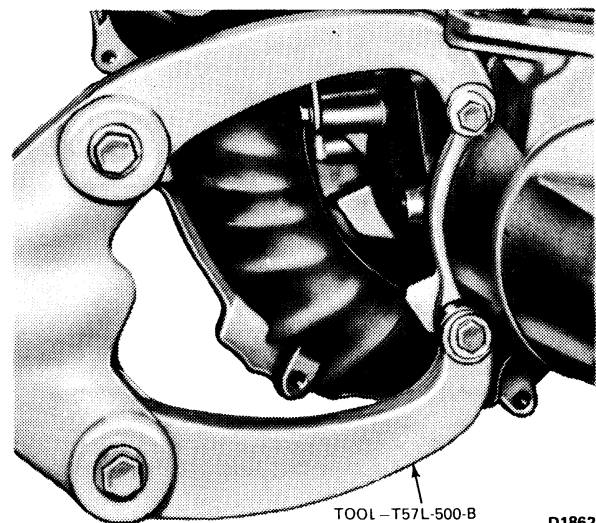

FIG. 13 Transmission Mounted in Holding Fixture
4. Remove the two extension housing-to-case bolts shown in Fig. 13 and mount the transmission in the holding fixture.